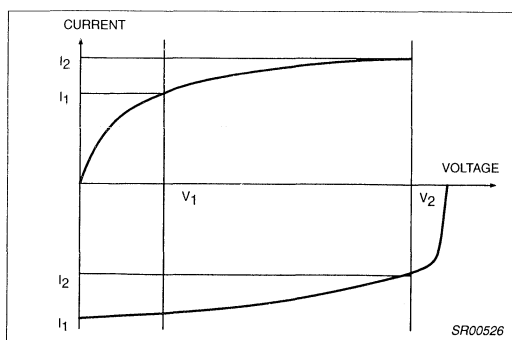

Figure 3. Relative Output Current Variation
- The relative output current variation is defined thus:  $\frac{\Delta I_{OUT}}{I_{OUT}} = 2 \cdot \frac{(I_2 - I_1)}{(|I_2 + I_1|)}$ ; with  $V_1 = 0.3V$ ,  $V_2 = V_{CCCP} - 0.3V$  (see Figure 3).